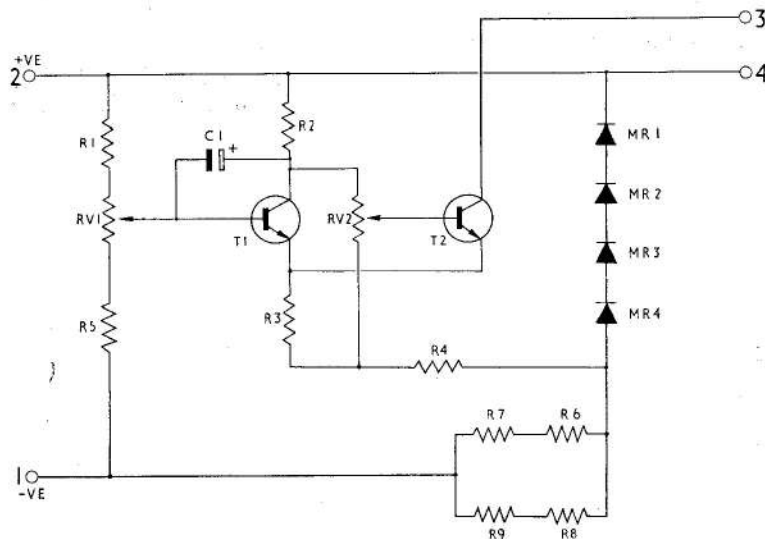

Fig. 4. Circuit diagram
4. Terminals 1 (negative) and 2 (positive) are connected to the generator output. Terminals 3 and 4 are connected to the coil of the associated relay (*fig. 4*). As the voltage across the potential divider network between terminals 1 and 2 increases, the base potential of transistor T1 is maintained positive with respect to the emitter. T1 therefore passes more current with increase in supply voltage. Due to the voltage drop in resistors R2 and R3, the base/emitter potential of transistor T2 is reduced to such an extent that T2 is switched "hard off".
8. The potentiometers RV1 and RV2 provide adjustment of pick-up and drop-out voltages respectively, while R6 to R9 are incorporated to effect power dissipation. Capacitor C1 prevents nuisance tripping of the relay by utilizing transient feed back to effect a short time delay in the transient operation (fig. 4).
11. Electrical connections are made via four 4 B.A. screw and washer terminations (numbered 1 to 4) in the moulded base. The internal connections are shown in the circuit diagram (fig. 4).